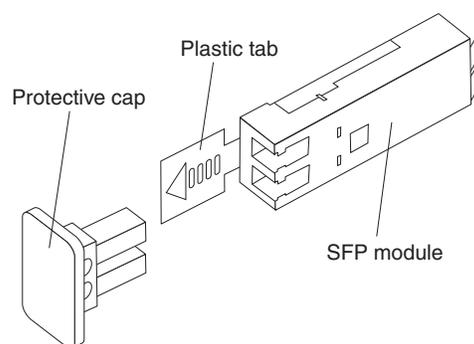

Figure 23. Small Form-Factor Pluggable (SFP) Module
2. Remove the protective cap from the SFP module, as shown in Figure 23. Save the protective cap for future use.